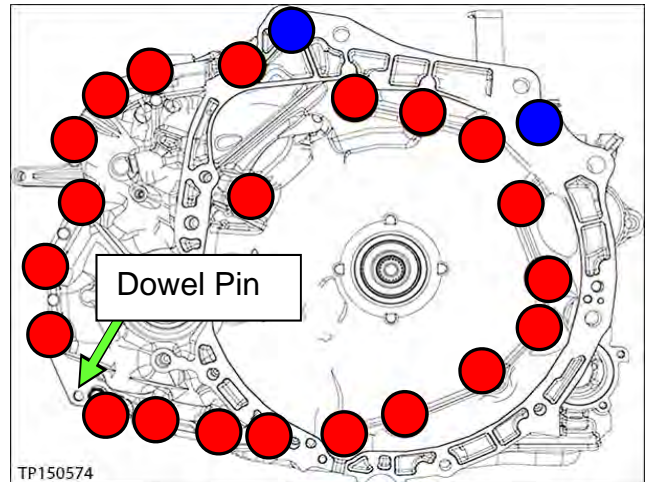

Figure 28
15. Remove all 23 converter housing mounting bolts (Figure 28).